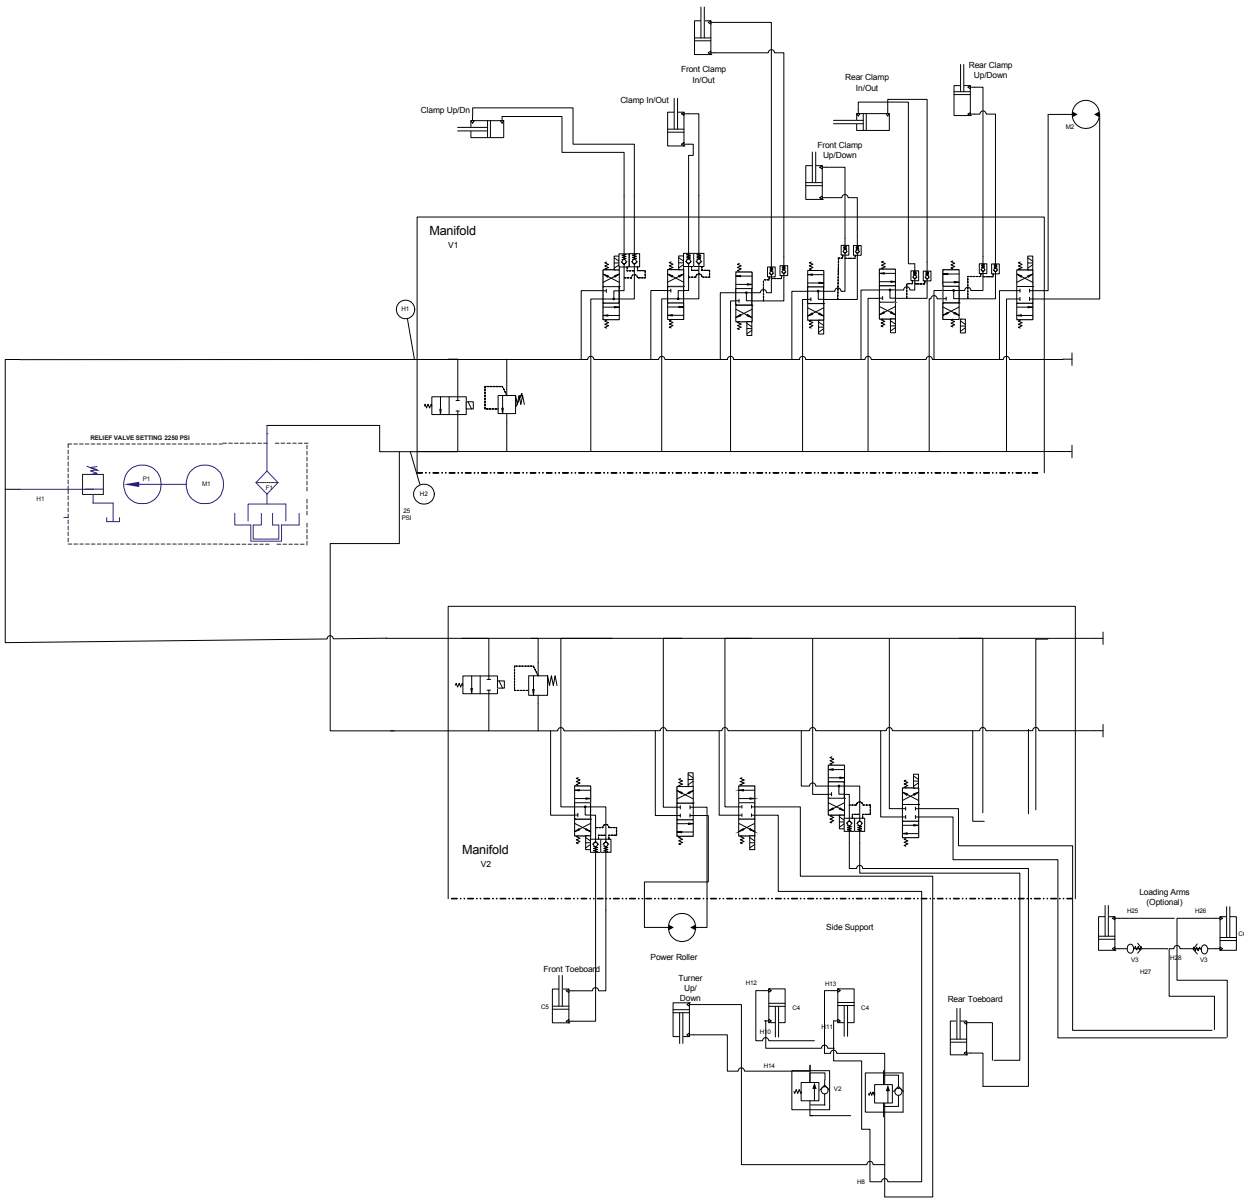

FIG. 1-2 HYDRAULIC SCHEMATIC.
**See Figure 1-2.** The figure below shows setup of the sawmill, the control box and the guiding rail columns.